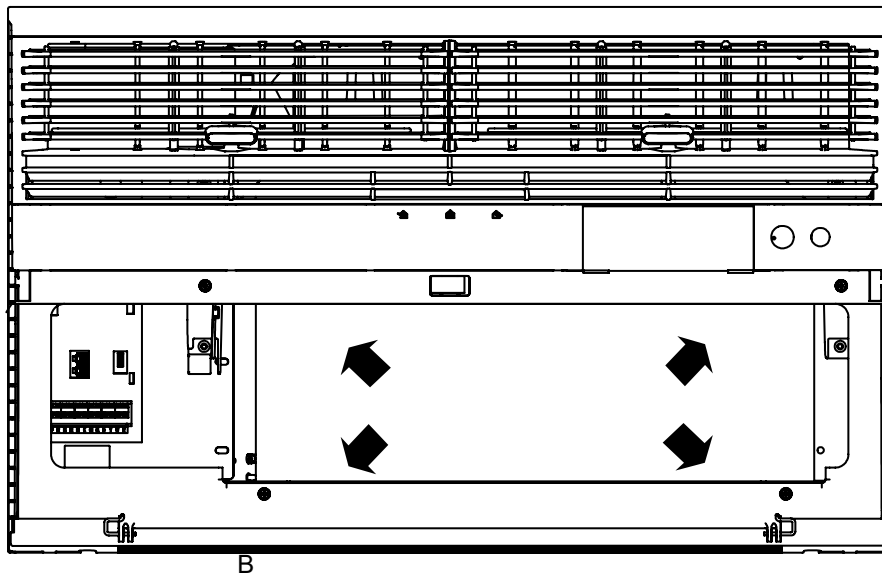

Figure 401 (Remove and Install the Front Cover)
1. Using a 1/4" nut driver loosen the four (4) captive screws as shown in figure 401
1. Remove the decorative front cover. See Routine Maintenance Figure 401.